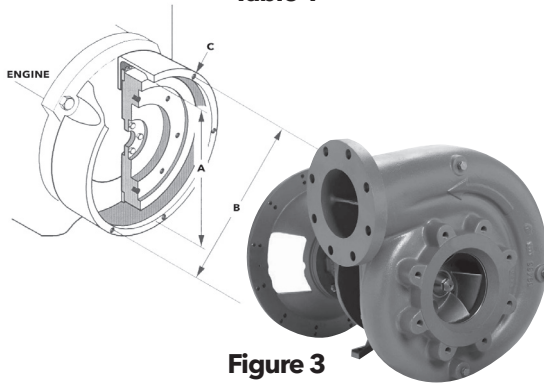

Figure 3
- These flywheels will have a recessed bore machined into the face, and a set of tapped holes, which will be used to attach the coupling to the flywheel. Dimensions are governed by an SAE standard and are listed in Tables 1A and 1B, Figure 3. The "clutch size" shown in the table is the nominal clutch facing diameter for Drive Ring Type Overcenter Clutches.